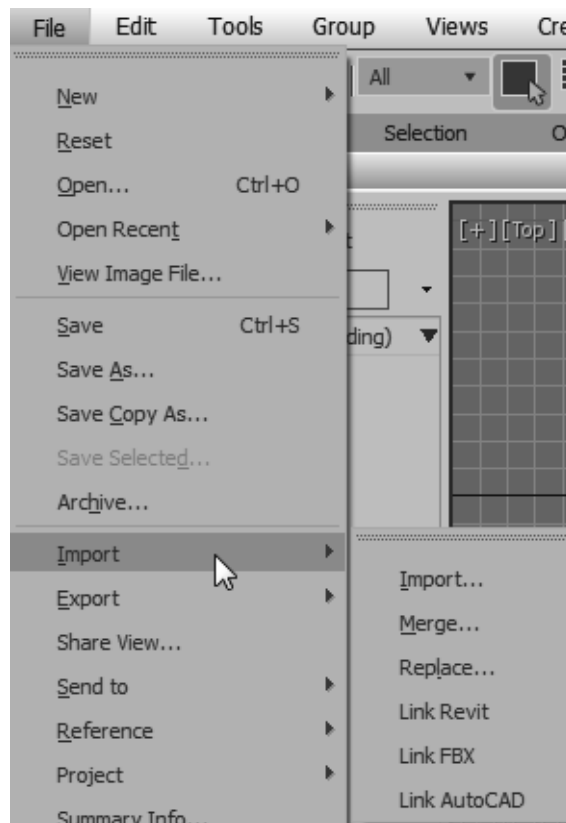

Figure 3–1
- File links and imports are launched from the **File>Import** in the Menu bar, as shown in Figure 3–1.